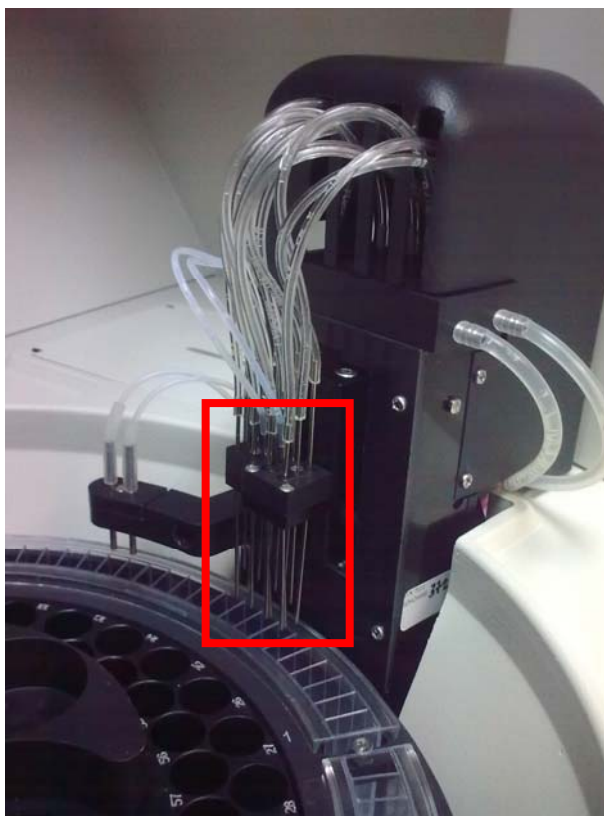

Fig. 5.8
- A manifold (Fig. 5.8) comprising 12 needles (4 dispensing needles and 8 aspiration needles)